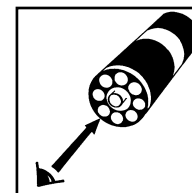

Figure 5
a. **Low Range Comparator (fig. 5):** Place the ampoule, flat end first, into the comparator. Hold the comparator up toward a source of light and view from the bottom. Rotate the comparator until the best color match is found.